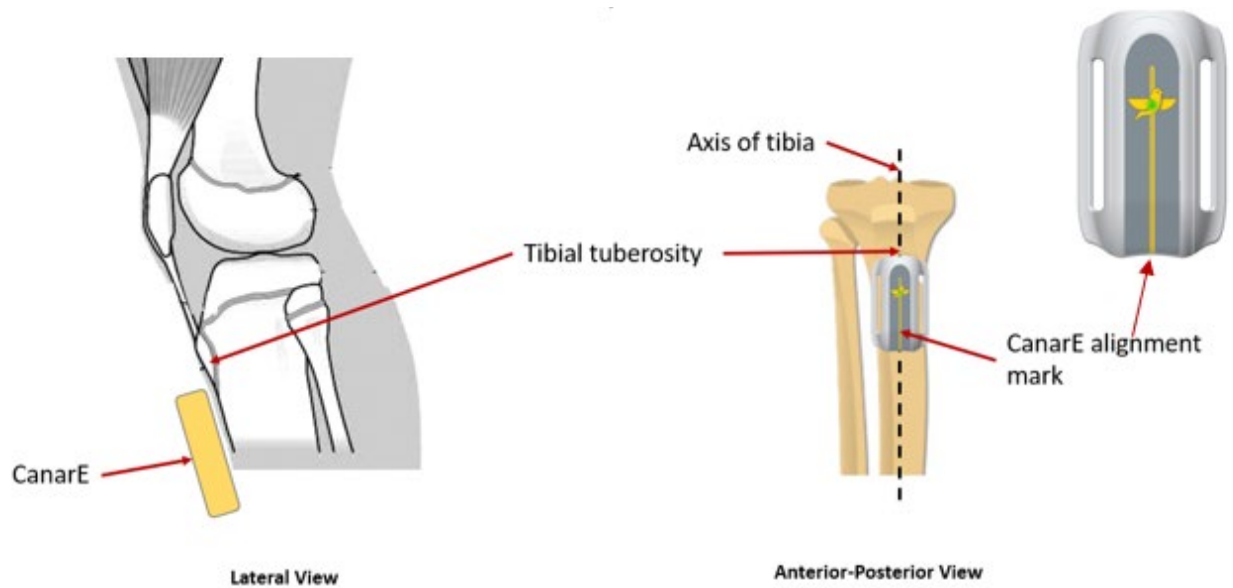

Figure 9: CanarE Placement on Tibia
2. Place the CanarE directly onto the patient's knee with the superior surface of the CanarE located on the inferior most aspect of the tibial tuberosity as shown in Figure 9.
3. Align the CanarE alignment mark with the axis of the tibia by palpating the patient's tibia inferior of the CanarE. Attach the CanarE as shown in Figure 9.